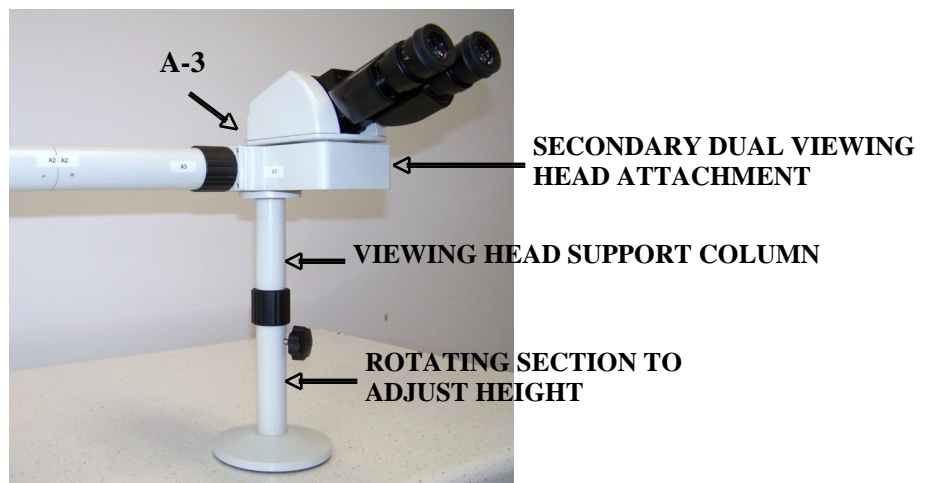

Figure 2
3. Place the secondary viewing head attachment/viewing head support column assembly on the right side of the primary microscope. Attach the shorter of the two extension tubes to the secondary viewing attachment (A-3 to A-3, Figure 2).